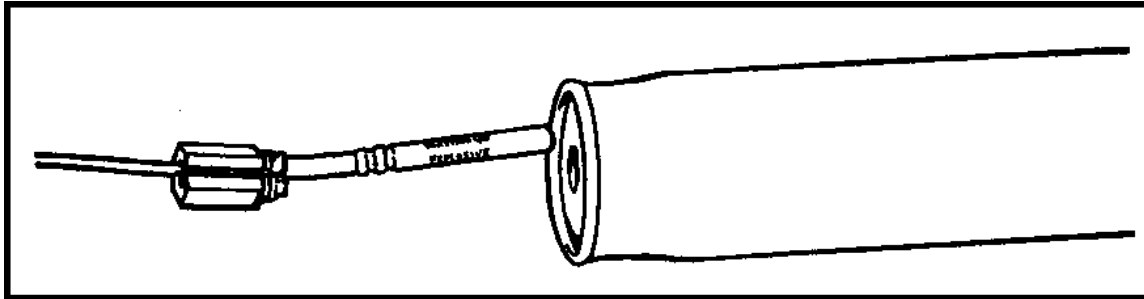

Figure 051-193-1311-20
- i. Insert the blasting cap into the threaded cap well of the bangalore torpedo. Secure the blasting cap by tightening the priming adapter into the threaded cap well (Figure 051-193-1311-20).